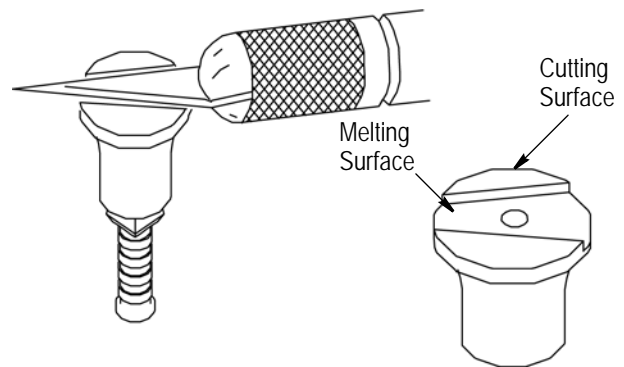

Figure 3
4. Slide the plug into the cutting tool as shown in Figure 3, Detail A.
5. Place the flat side of the hot knife blade in the lower area (melting area) of the fixture. Press down on the blade to melt the remaining fiber flush with the end of the plug. The fiber should form a small rivet in the plug to aid retention. See Figure 3, Detail B.